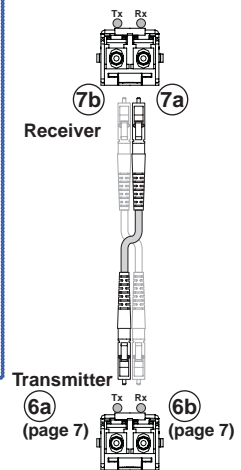

Figure 4. Two Way Configuration
- **Two way (transmitter to receiver and return)** — Connect a fiber cable to connector ⑦a from transmitter connector ⑥a and a fiber cable from connector ⑦b back to the transmitter connector ⑥b (see figure 4.)